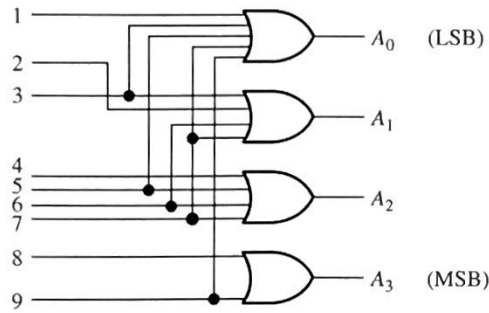

Figure 2: A decimal to binary encoder circuit.
4. Consider Fig. 2, in which a decimal to binary conversion circuit is shown. (a) Add logic to the circuit such that it becomes a hexadecimal to binary converter. (b) Draw a logic symbol for this circuit with the correct number of inputs and outputs. (c) Connect two hex-to-bin converters to a symbolic 2-to-1 multiplexer with the correct number of data select line(s) to form a system that can send two-digit hex numbers over one output line.